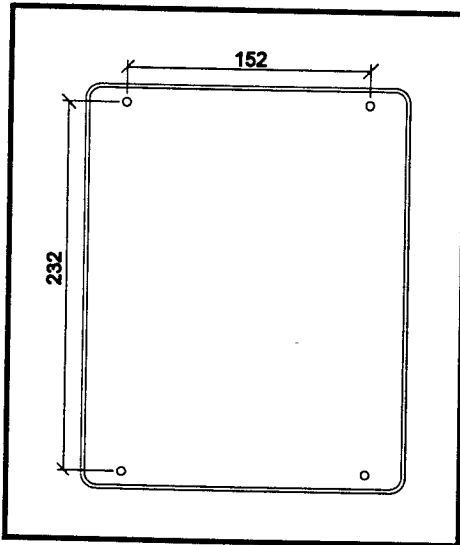
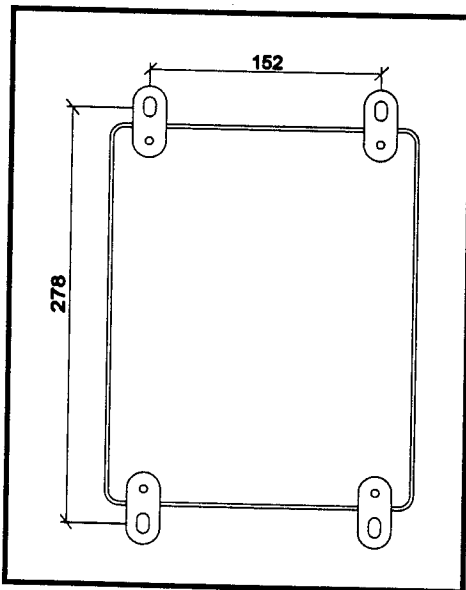

Figure 2-1
Figure 2-2
The Model 300 may be mounted by one of two methods. The mounting arrangement shown in Figure 2-1, is suitable for installations where the attaching screws can be inserted from behind the transmitter. Figure 2-2 shows the arrangement when using the supplied mounting kit. Either of these methods may be used without compromising the IP66 (NEMA 4X) rating of the enclosure.
- (b) Decide upon which of the two mounting arrangements shown opposite, is the most suitable for your particular application. Drill holes in the wall using the dimensions shown in Figure 2-1 or Figure 2-2. The screws supplied in the enclosed mounting kit, (i.e. #10-32 pan head) can be used for the standard mounting arrangement detailed in Figure 2-1, providing the panel thickness does not exceed 3mm. If using the arrangement shown in Figure 2-2, you must supply the necessary hardware to attach the unit to the wall. The slots in the mounting feet supplied can accommodate screws up to 7mm in diameter.